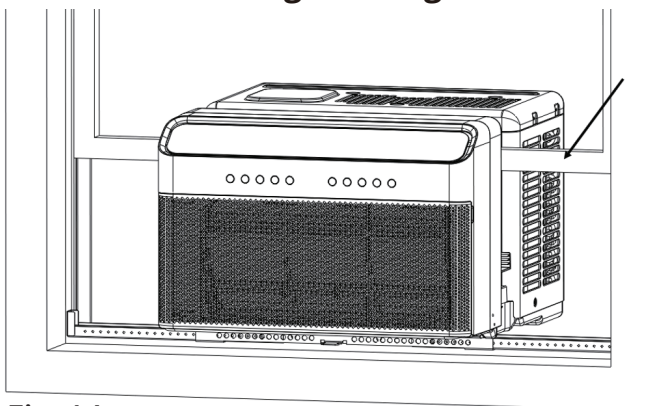
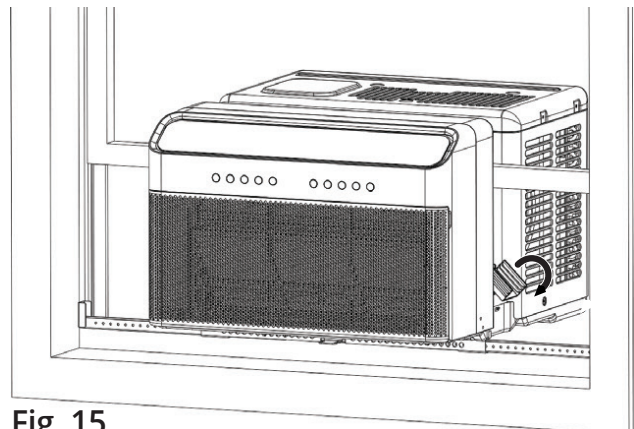

Fig. 14
Fig. 15
B. Now, pull the window down into the slot to help align and position the unit into the correct location. Keep the window partially inserted into the the window slot to help support the air conditioner during the installation. Then, fold down the **Side Arm Hinges** on both sides of the unit. Please refer to the **Fig. 14 & Fig. 15** below.